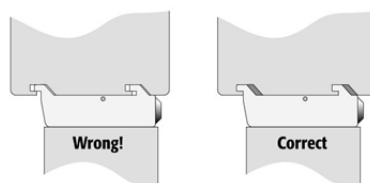

Figure 10. Attachment of Mounting Claws
2. Double check whether the leg claws are correctly attached to the X-axis (see Fig. 10).
4. Double check whether the two Tray Holder clamps are correctly attached to the X-axis (see Fig. 10).